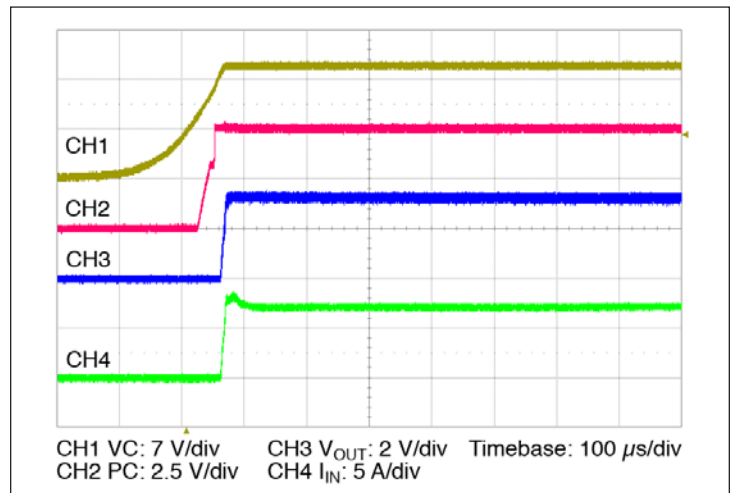

Figure 14 — Start up from application of  $V_C$ ;  $V_{IN}$  pre-applied  $C_{OUT} = 0 \mu\text{F}$
- **Stand Alone Operation (VC applied after VIN):** In this case the module output will begin to rise upon the application of the VC voltage (See Figure 14). The Adaptive Soft Start circuit (See Section 10) may vary the output rate of rise in order to limit the inrush current to its maximum level. When starting into high capacitance, or a short, the output current will be limited for a maximum of 900 µsec. After this period, the adaptive soft start circuit will time out and the module may shut down. No restart will be attempted until VC is re-applied, or PC is toggled. The maximum output capacitance is limited to 4000 µF in this mode of operation to ensure a successful start.